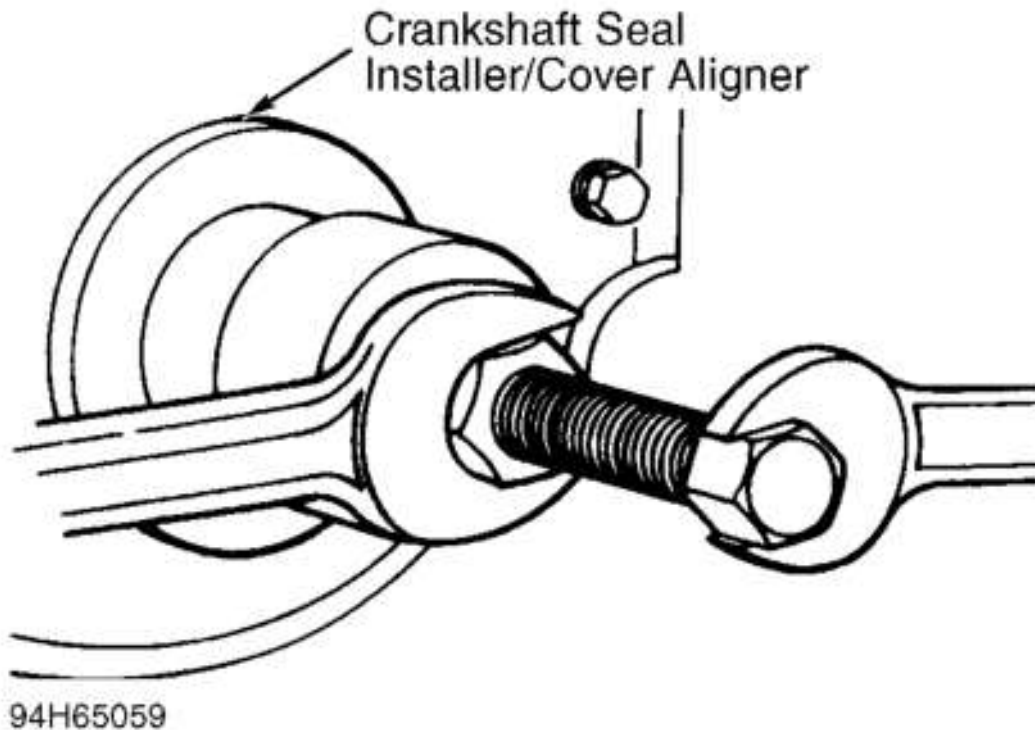

Fig. 5: Installing Timing Cover Oil Seal
2. Position timing gear cover seal installer and seal onto the crankshaft end. Force seal into recess by tightening bolt. See **Fig. 5**. Remove timing gear cover seal installer. Apply a 1/4" (6 mm) bead of silicone sealer to keyway inside vibration damper hub.